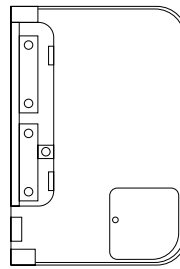

Figure 2
4. Making sure that the positive (+) and negative (-) ends of the batteries are facing correctly, load two new batteries into the compartment. (Figure 2)